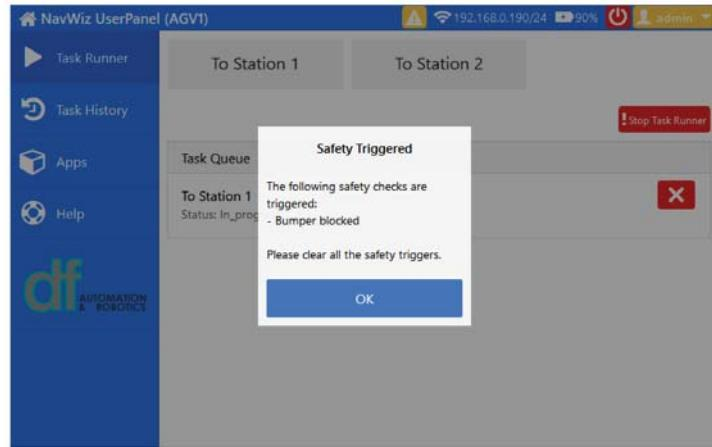

Fig. 3.26: Bumper Blocked Safety Triggered Message
- i. Upon the activation of either Front or Rear **Bumper** , AGV will stop its current operation immediately and a **Safety Triggered** with **Bumper blocked** message will be shown on the **LCD Touchscreen** as shown in Fig. 3.26.